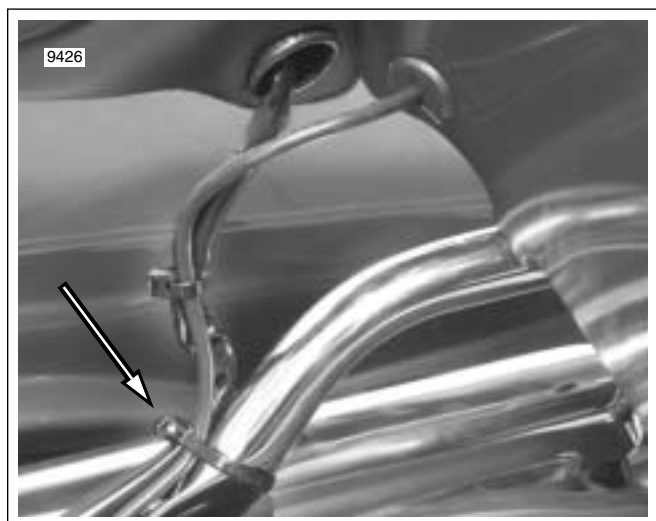

Figure 2-149. Right Side Luggage Rack Rail (FLHTCU)
10. Verify that wire harness to Tour-pak is not bunched or stretched at any point. Rearrange wire harness slightly if necessary. Install **new** cable straps capturing wire harness and luggage rack rails if rearrangement required cutting of existing cable straps. See Figure 2-149.